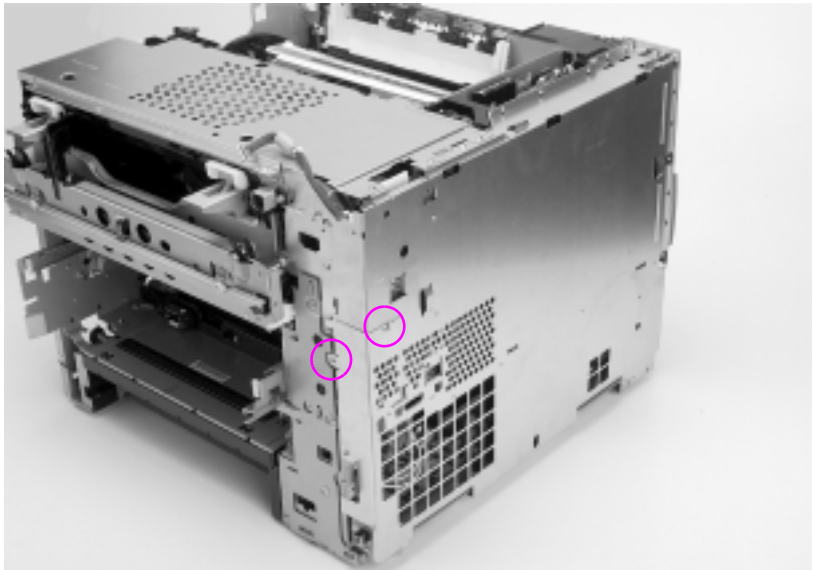

Figure 6-25 Formatter pan assembly removal and replacement (1 of 4)
- 6 Remove the two screws for the connector cover shown in Figure 6-25.